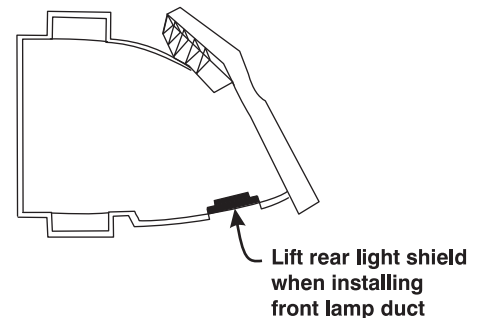

Figure 7-1 Light Shield on Front Lamp Duct
9. Re-install the front lamp duct. As you install the front lamp duct, lift the small light shield on the rear lamp duct cover so that it does not get jammed between the two pieces when they come together. (Figure 7-1) To ensure a good fit between the two pieces, squeeze the top and bottom cover snaps to ensure they are locked in place. The light shield should move freely to the touch.